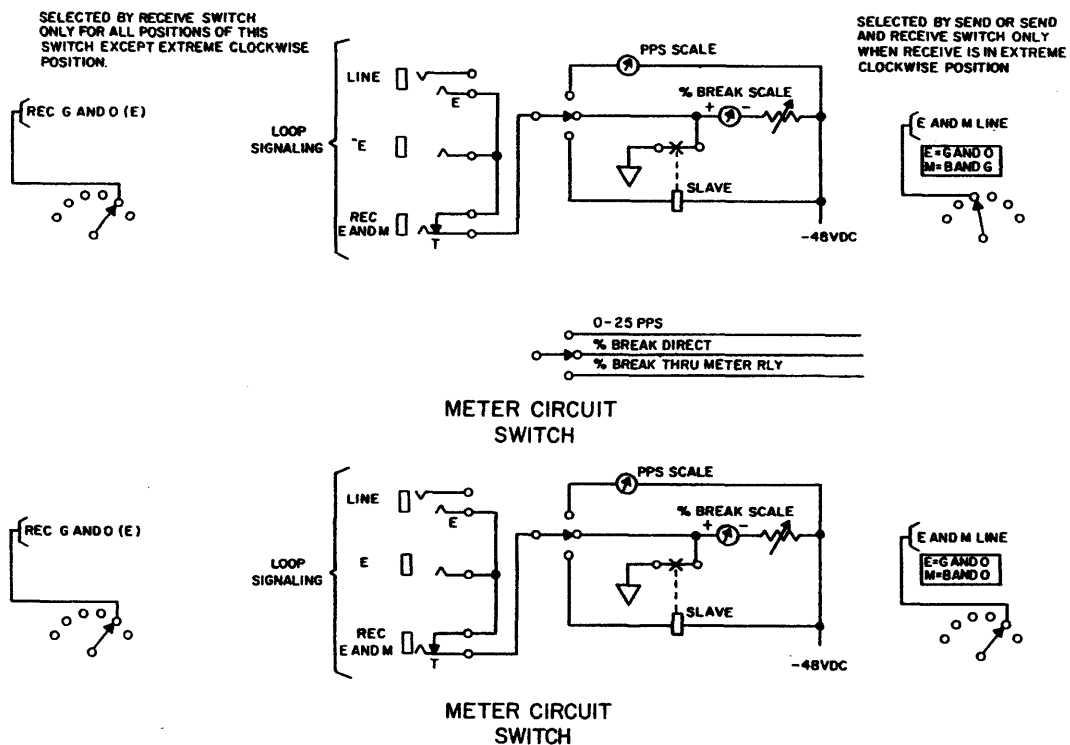

Figure 3-3c METER CIRCUIT
3.20 MEASURING PERCENT BREAK ON THE E LEAD: The following provides the procedure for Measuring % Break on an E lead (See fig. 3-3c):